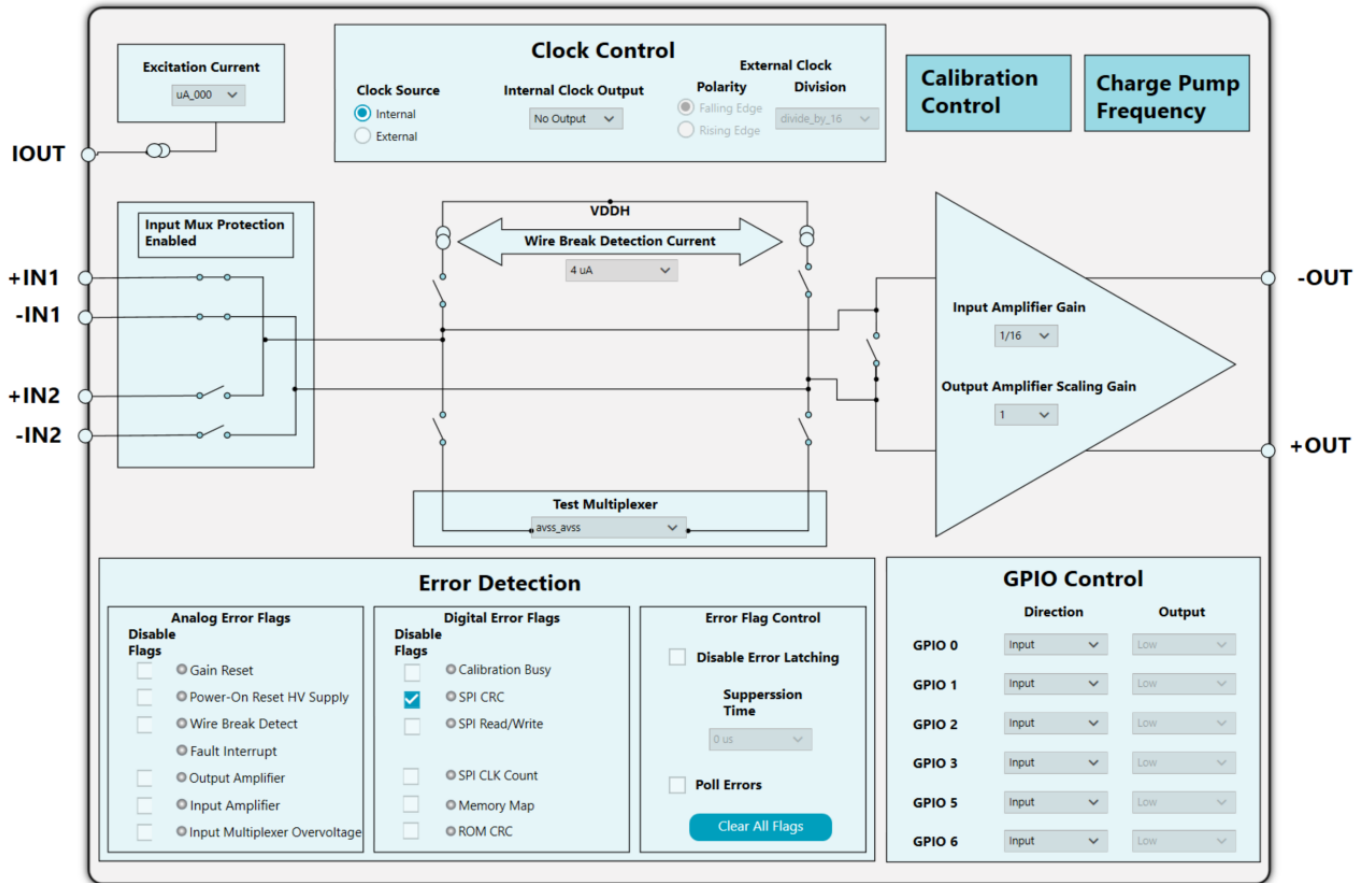

Figure 8. Chip View
6. Double-click the ADA4255 chip to access the chip block diagram. This view provides a basic representation of the functionality of the ADA4255CP-EBZ. The main functions are labeled in Figure 8, which is referred to as the block diagram view or the chip view.